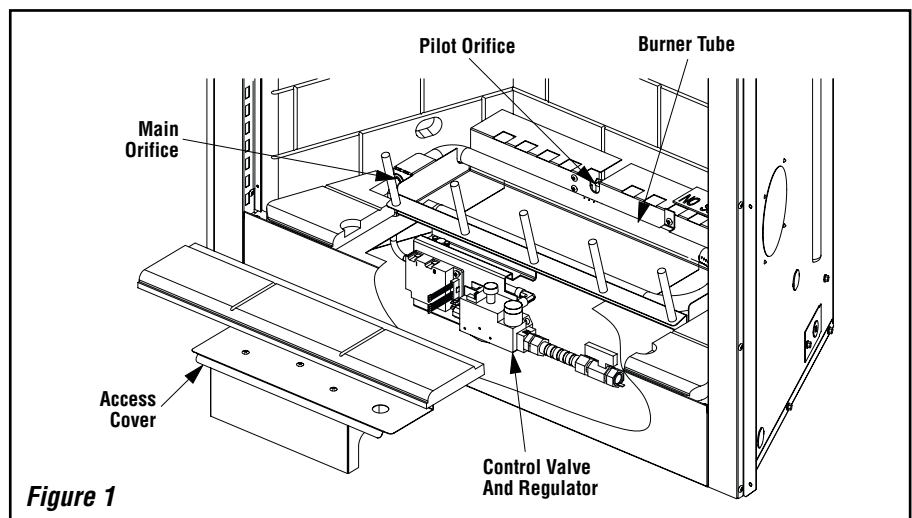

Figure 1
Step 3. Remove the burner tube with attached venturi tube. Refer to **Figure 1** for the location of the control valve and regulator, main orifice and pilot.